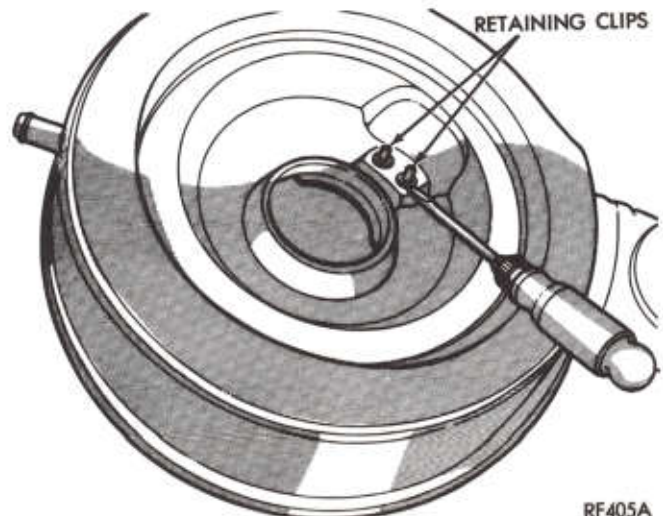

Fig. 11—Removing Sensor Retaining Clip (Carbureted Engines)
(1) Disconnect vacuum hoses from temperature sensor, remove retainer clips (Figs. 11 and 12), and